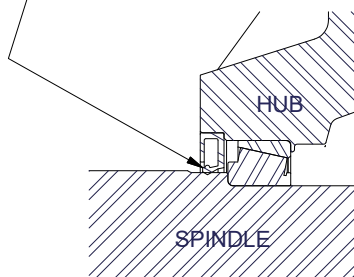

FIG. 4-3
6. Remove seal and inspect bearings, spindle washer, castle nut and cotter pin. Replace if necessary. Pack both bearings with approved grease and reinstall inner bearing. Install new seal in hub with garter spring facing the outside of hub by tapping on flat plate that completely covers seal while driving it square to hub. (FIG. 4-3) Install until flush with back face of hub. Using a safe lifting device rated for 200 lbs., install hub assembly onto spindle. Install outer bearing, spindle washer and castle nut.